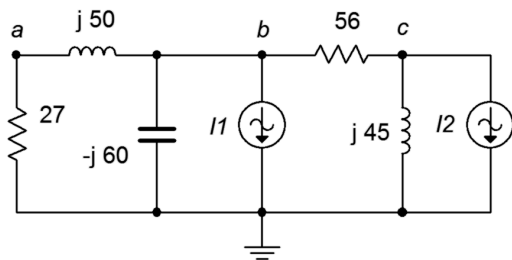

Figure 6.17
33. Given the circuit in Figure 6.17, determine v_c . $I_1 = 3\angle 0^\circ$, $I_2 = 2\angle 0^\circ$.
34. Use nodal analysis to find the current through the $j45\ \Omega$ inductor in the circuit of Figure 6.17.